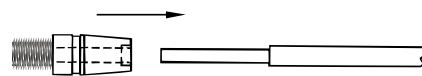

Fig. 2A End Ferrule Repair
- Apply drop of adhesive to fiberglass core end (in case of a splice, do one end at a time as in Fig. 2A) and spread over core with toothpick or nail.
- Twist ferrule while inserting rod (Fig. 2A and 2B). Clean off excess glue. For end ferrule repair, use emery cloth to sand off excess rod extending from end of ferrule